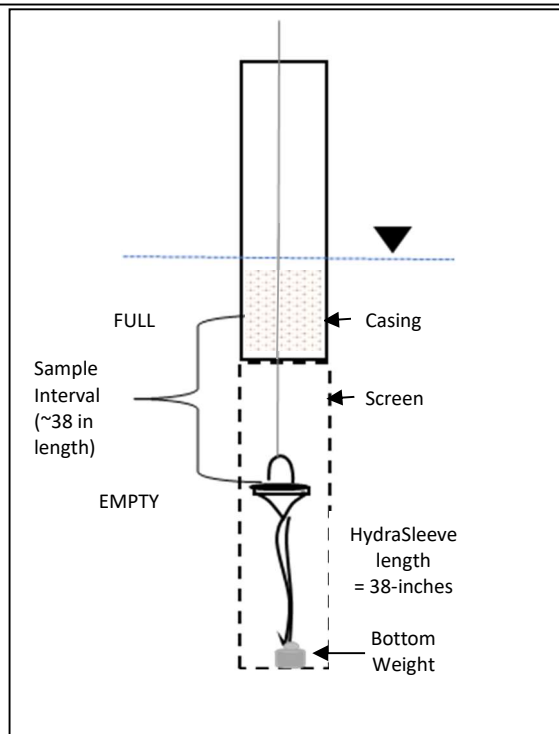

Figure 3. INCORRECT placement of HydraSleeve
**Example 2 (Figs 3 & 3a):** 2" ID SCH 40 PVC well, 50' total depth, **5' screen** at the bottom of the well, with water level above the screen (the entire screen contains water). Sampling will be done using,
**INCORRECT Placement (Fig 3)**